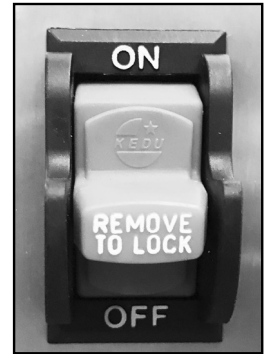

Figure 10-1
1. Turn OFF and unplug the power drive unit (Figure 10-1).